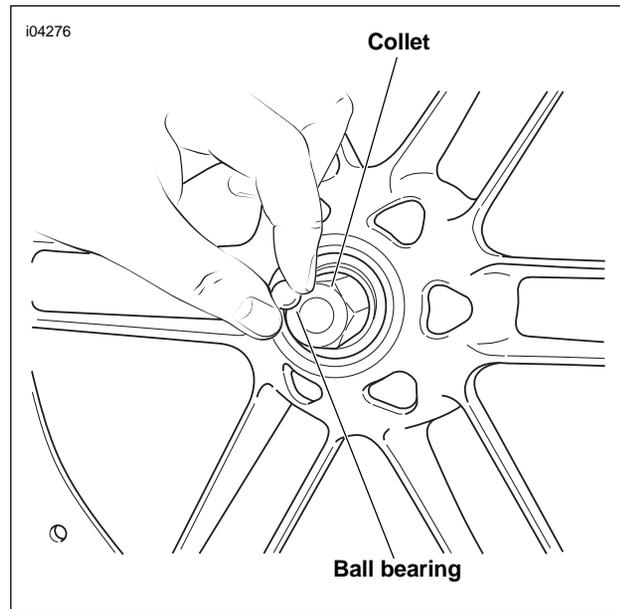

Figure 2-8. Install Collet and Ball Bearing
3. Assemble the short forcing screw (1), nut (2), Nice bearing (3), washer (4) and bridge (5) from the WHEEL BEARING INSTALLER/REMOVER (HD-44060).
4. See Figure 2-8. Insert the FRONT WHEEL BEARING REMOVER COLLET (B-43993-7) into the wheel bearing until it fully seats against the bearing.